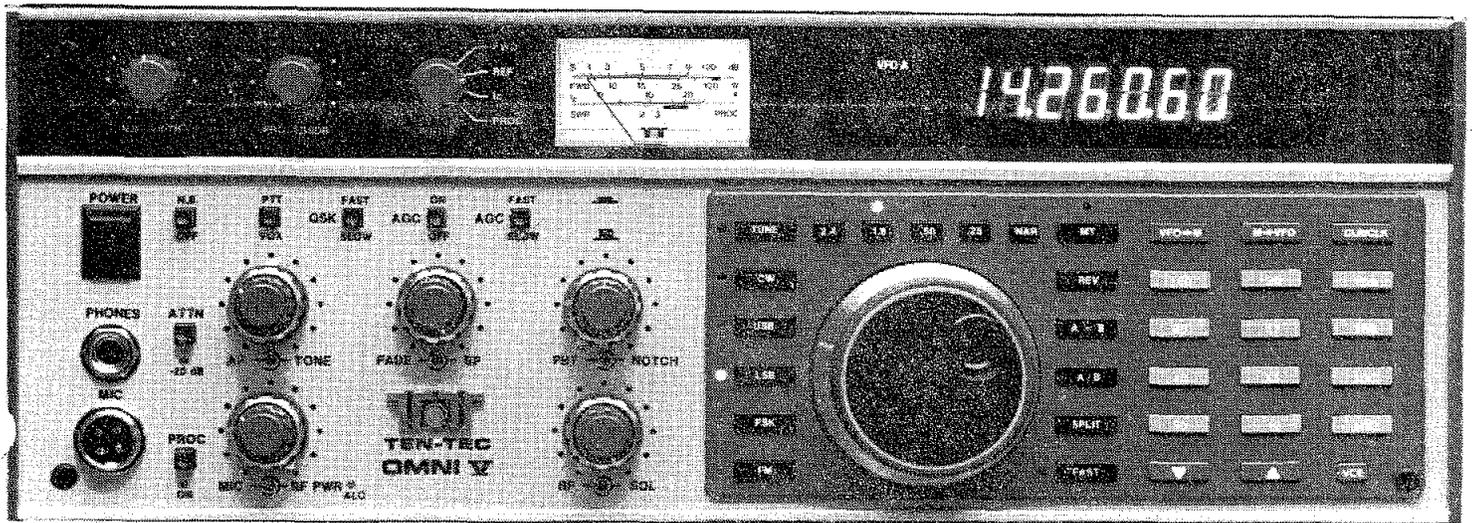

FIGURE 3-2. MODEL 562 FRONT PANEL
**3-4 FRONT PANEL FUNCTIONS** The following sections describe the front panel displays and the controls which are not located on the keypad. Refer to FIGURE 3-2 to help locate each control.